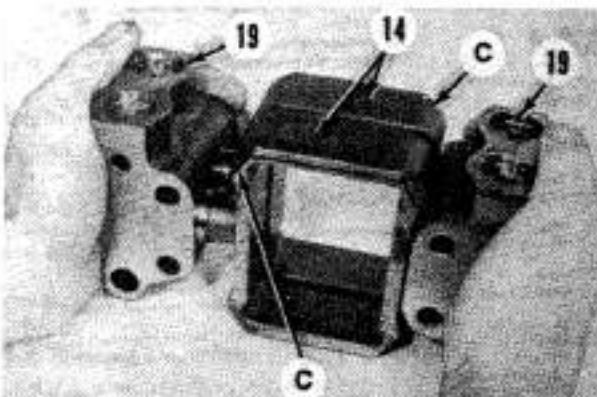

Fig. 242—Chamfered corners (C) of piston yokes (14) must face away from each other.
**231. ASSEMBLY.** Assemble valve chambers (19—Fig. 242) onto piston yokes (14) making sure chamfered corners (C) of yokes face away from each other. Install camshaft, cam follower and cam blocks into piston yokes making sure cam block with shoulder is at front (widest lobe) of camshaft and that shoulder faces inward. Slide camshaft assembly into rear body making sure end of cam follower (20—Fig. 237) is towards bottom of pump.